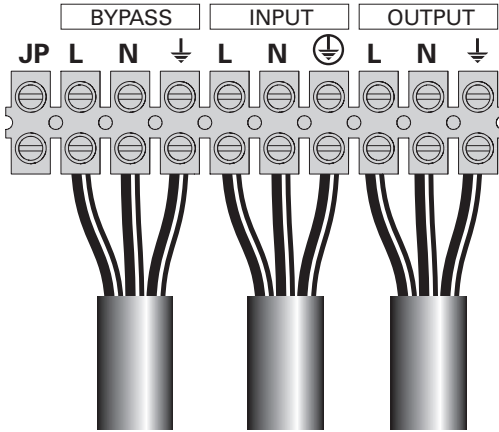

Figure 18.
- 1 - Remove the metal jumper (see figure 18).